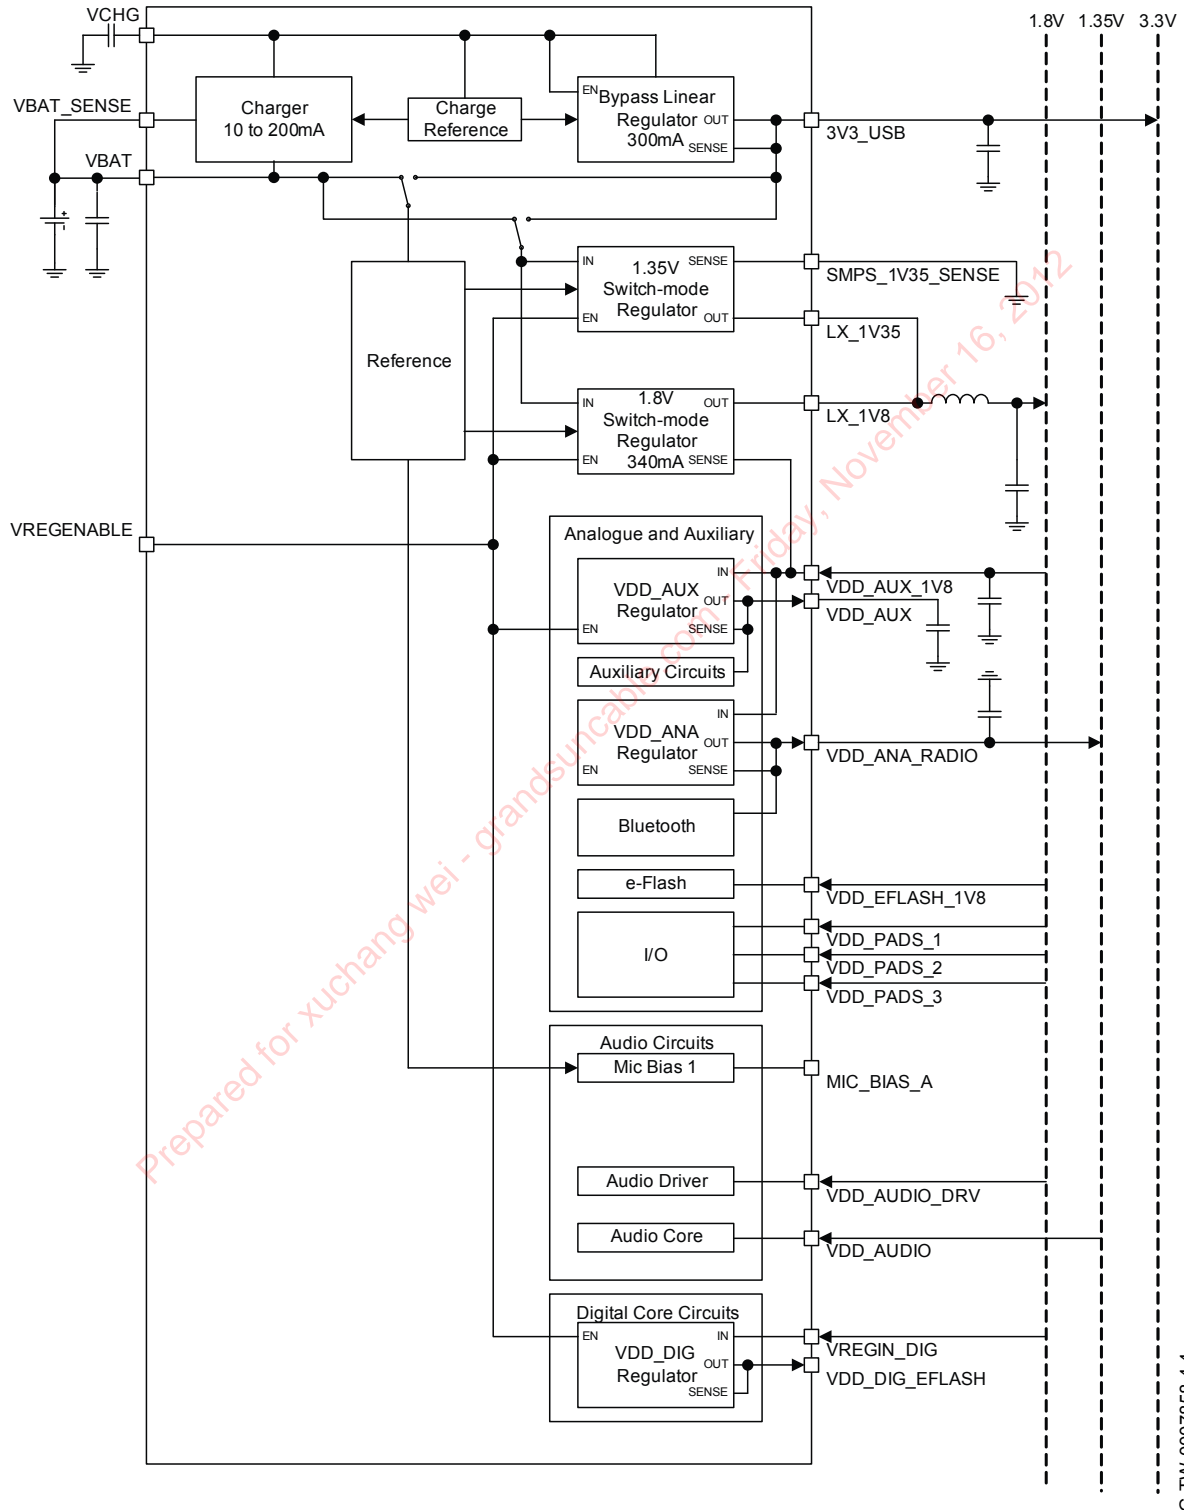

Figure 11.2: 1.80V Parallel-supply Switch-mode System Configuration
- A 1.80V parallel-supply rail system for higher currents using the 1.80V and 1.35V switch-mode regulators with combined outputs, see Figure 11.2.